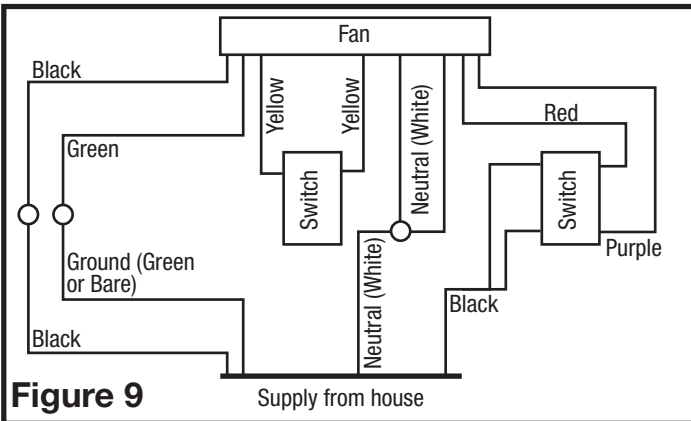

Figure 9
2. **Continuous Ventilation:** For two speed fans wired for continuous ventilation, connect the White wires of the fan to the White (Neutral) wire from the power source. Connect the ground wire from the house to the green wire from the fan housing. Connect the Black wire of the fan to the Black wire (Hot) from the power source. Using a properly grounded standard duplex toggle switch (such as Leviton 5224-2W, not included) connect the Black wire from the supply to one side of the top and bottom switch. Connect the Red wire (light) from the fan housing to the other side of the top switch and connect the Purple wire (night light) from the fan housing to the other side of the bottom switch. Using a second properly grounded standard duplex toggle switch, connect the Hot Yellow wire from the fan to the input of the switch. Connect the second Yellow wire from the fan to the output side of the switch. Closing the switch will change from normal to high speed (**Figure 9**).